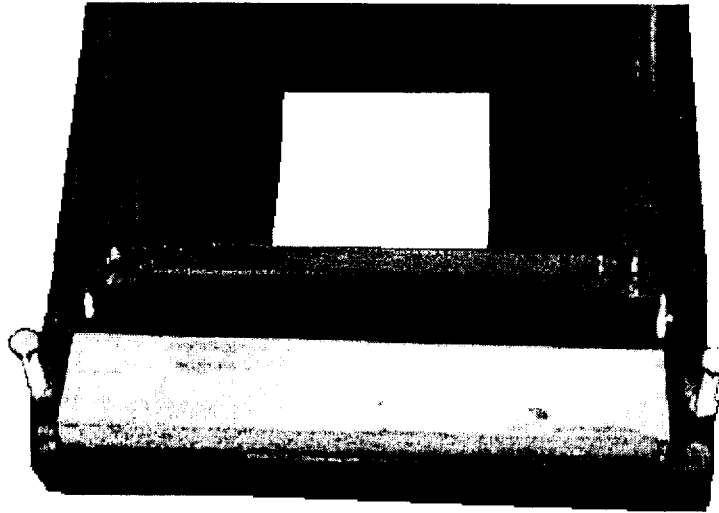

Figure 3 – Insert 4"x4" Wood Block as a Safety Mechanism During Installation
4. Once the lift has been fully raised, place the 4"x4"x19" piece of wood (supplied) into the baseframe weldment as shown in Figure 3. **This must be done so that if the lift comes off the safeties during installation, the scissors will not collapse** (i.e. they will jam against the wood block). The blocks may be removed once installation is complete.